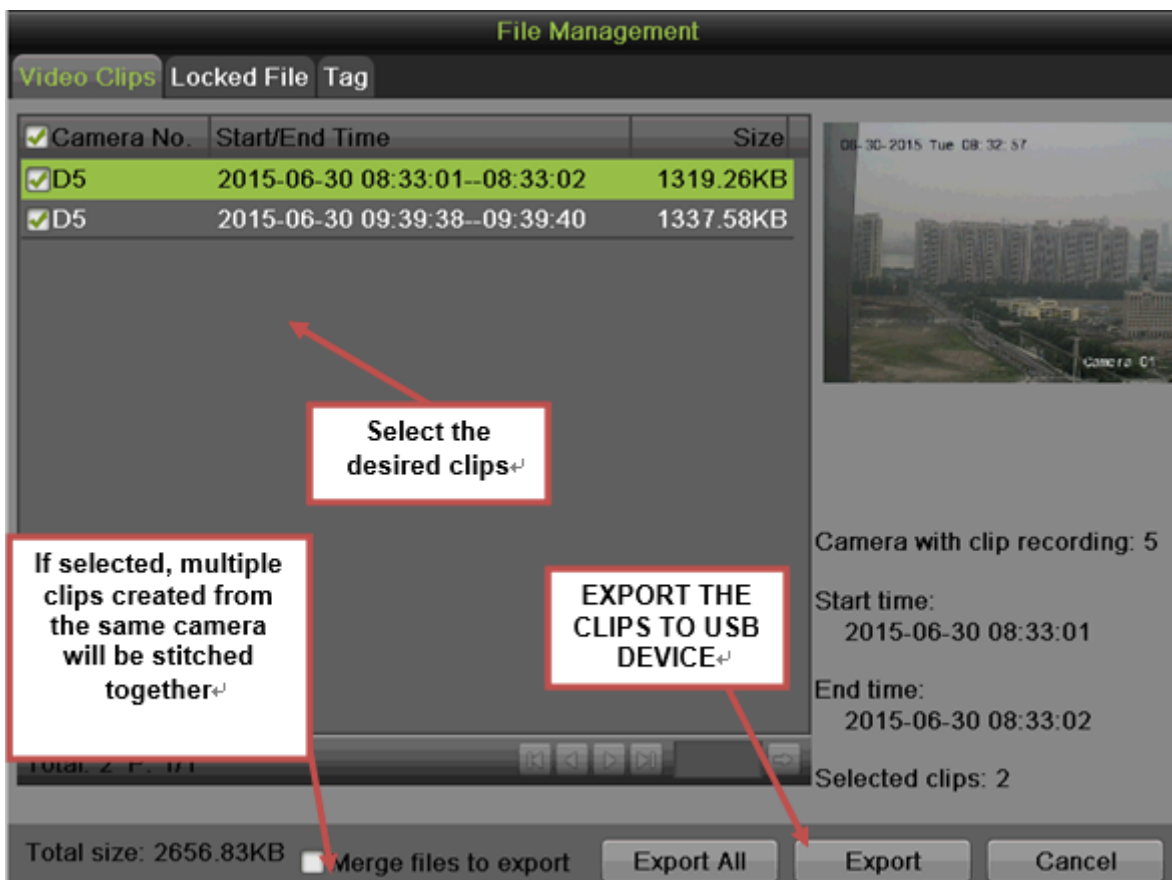

Figure 97 Clips Export Interface
1. Enter the Clips Export menu, shown in **Figure 97** by first going to Menu > Playback. In the Playback menu, click the Clips Export button.